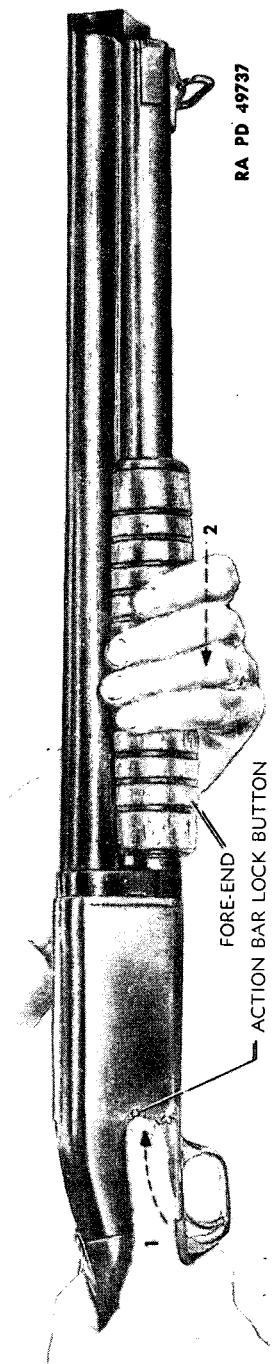

Figure 73—Retracting Fore End (Action Bar)—Action Bar Lock Button Depressed—Remington Shotgun M10
b. Before the action slide can be retracted, the action bar lock must be disengaged from the action bar. If the gun has been fired and the cocking head consequently in the forward position, the only movement necessary is to reciprocate the fore end as above, as the forward movement of the cocking head and subsequent spring action of the action bar lock button has disengaged the action bar lock from the action bar. If, however, the cocking head is in the rearward (cocked) position, it is necessary to depress the action bar lock button protruding through the right wall of the receiver to disengage the lock before retracting the fore end (fig. 73).